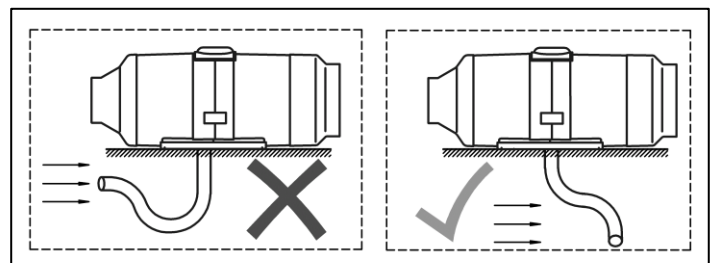

Fig. 5 – Position of air intake/exhaust pipe
When laying the air intake pipe, avoid sharp bends and do not obstruct the opening of the air intake pipe with foreign objects. Make sure its opening is pointing downwards (see Fig. 5). If that is not possible Ø3mm hole needs to be drilled at the lowest point of the pipe.
The outlet of the exhaust pipe must be installed **pointing downwards (Fig. 5)**, but it should be in such a position that would prevent clogging or entering of snow and dirt, and also provide for free drain of any water that got into it.
**Do not place the output opening of the exhaust pipe in front of the incoming airflow of the moving vehicle or vessel (see Fig. 5).**